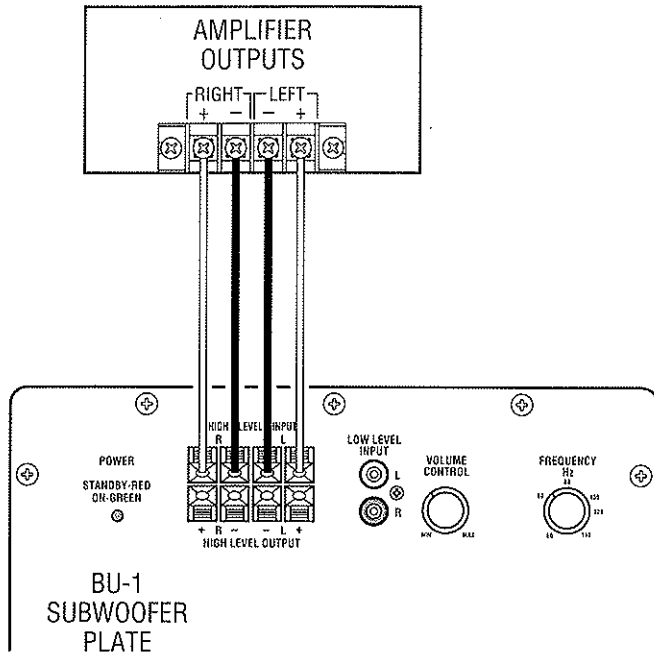

Figure 5
The BU-1 subwoofer may be connected to your system using the HIGH LEVEL INPUTS (4) on the plate located on the rear panel of the subwoofer. Use ordinary lamp cord maintaining proper polarity (+ to + and - to -). Attach the lamp cord to the left and right HIGH LEVEL INPUTS on the subwoofer and the other ends to the proper left and right OUTPUTS on your amplifier or receiver (see figure 5).